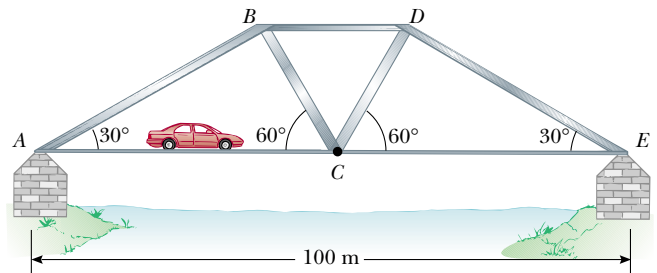

Figure P12.72
72. A 100-m -long bridge truss is supported at its ends so that it can slide freely (Fig. P12.72). A 1500-kg car is halfway between points A and C. Show that the weight of the car is evenly distributed between points A and C, and calculate the force in each structural component. Specify whether each structural component is under tension or compression. Assume that the structural components are connected by pin joints and that the masses of the components are small compared with the mass of the car.